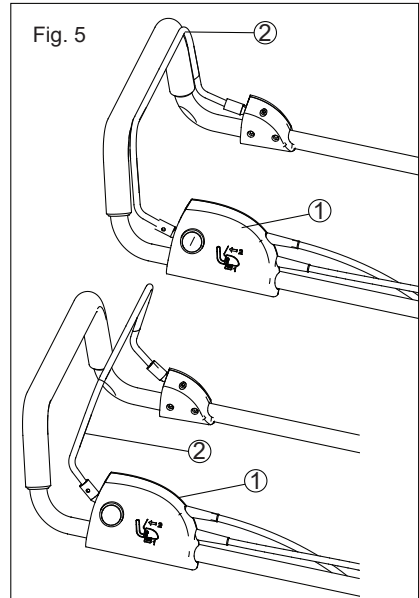

Fig. 5
① Press and hold the safety button ①. Squeeze the switch lever ② towards the handle (See Fig. 5).
② Release the safety button